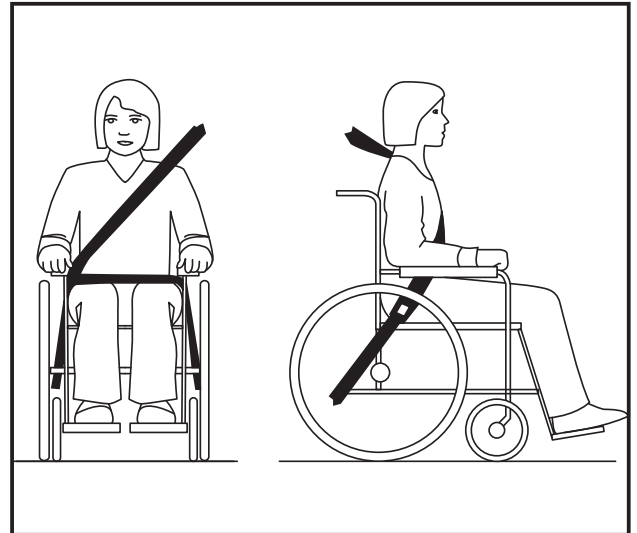

Figure 47
- Make sure the seat belt is not kept away from the body by the wheelchair parts, such as armrests and wheels. For correct positioning, see figure 47